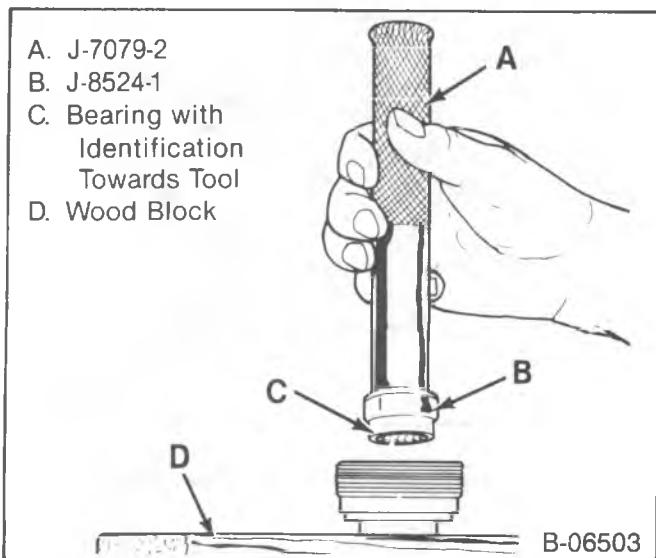
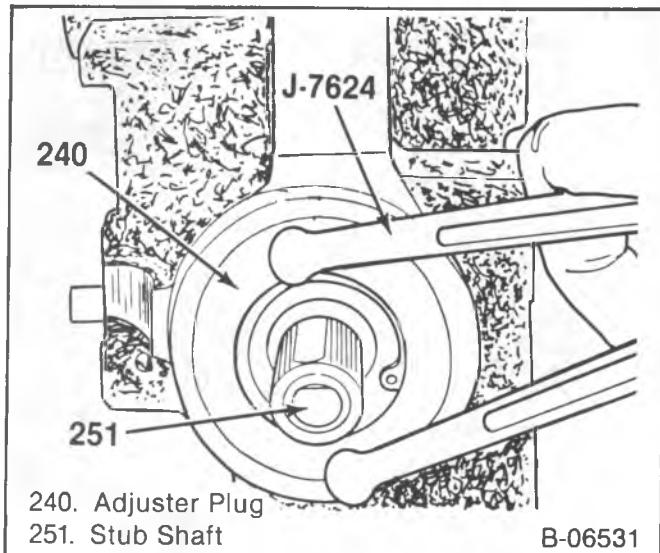

Figure 14—Installing the Needle Bearing
Figure 15—Bottoming the Adjuster Plug
- Lubricate the stub shaft (251) with power steering fluid.
5. Valve spool (252) and seals (230, 231) into the valve body (250).
- Lubricate the valve spool (252) and seals (230, 231) with power steering fluid before assembling.
6. Valve body (250), seal (249), wormshaft (248), bearing races (246) and roller bearing (247).
7. Seal (239) on the adjuster plug (240).
8. Needle bearing (241) in the adjuster plug. Use J 8524-1 and J 7079-2 (figure 14).
9. Seal (242), washer (243), and retaining ring (244) in the adjuster plug (240).
- The retainer projections must not extend beyond the washer (243) when the retainer ring (244) is seated. The washer must be free to rotate.
- 11. Adjuster plug (240) into the steering gear housing. Use spanner wrench J 7624.
**Adjust (Figures 15 through 22)**
- Use tool J 7624. Turn the adjuster plug (240) to the left until the plug and bearing (237) are firmly bottomed — about 27 N·m (20 ft. lbs.) (figure 15).